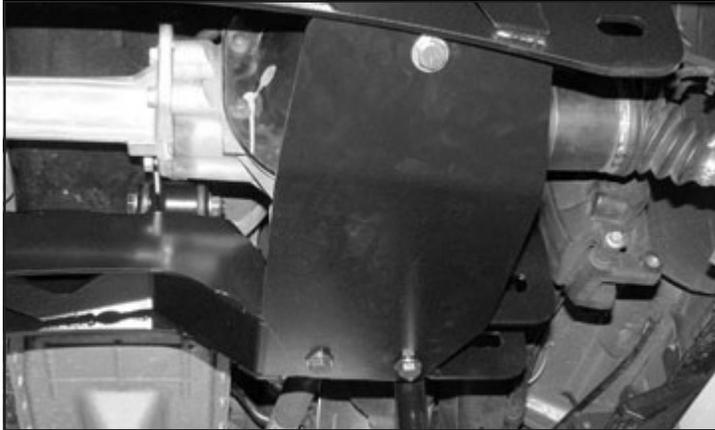

FIGURE 38 - STEP 38
38. Locate the Fabtech skid plate (FT30377BK). The skid plate will span the distance between the front and rear crossmembers directly under the front differential. Attach the end of the skid plate with the single hole to the tab on the back side of the front crossmember using one 1/2" - 13 x 1-1/4" bolt, washers and a C-lock nut. Lift up the back side of the skid plate and install it to the rear crossmember using two 1/2" - 13 x 1-1/4" bolts, washers and a C-lock nut. Torque all hardware to 127 ft-lbs. **SEE FIGURE 38** Torque the all upper factory crossmember bolts to 300 ft-lbs. at this time.